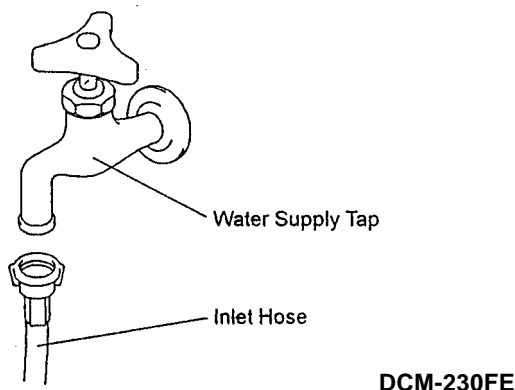

Fig. 3b
- 3) Attach the other end of inlet hose to the water tap, noting washer is correctly positioned before hand tightening as above. See Fig. 3b.